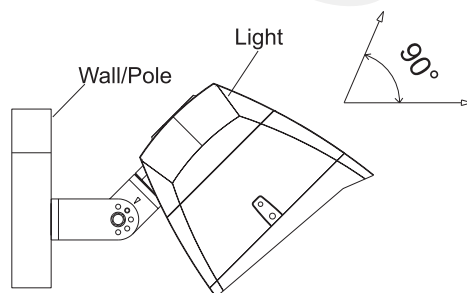

Figure 11
Step 3: Connect the fixture to the bracket and tighten the screws; connect the wires properly. (Figure 11)
Notice: Adjustable angle is $0 \sim \pm 90^\circ$ (Figure 11)